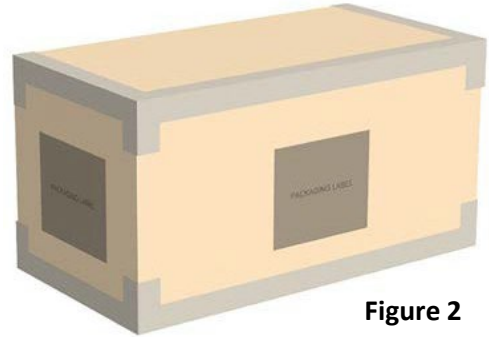

Figure 2
- 2. All FOL (Full Overlap) master cartons should be taped on three edges (reference Figure 2 at right)